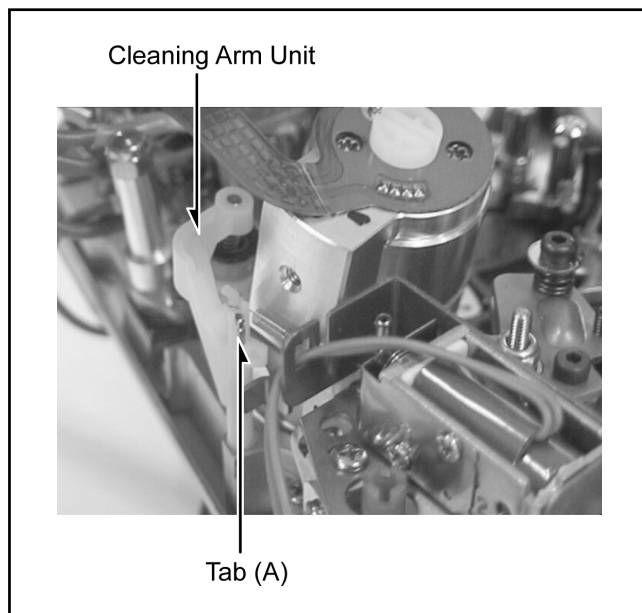

Figure 2-2-1
1. Unlock the Tab (A) and Spring as shown in Figure 2-2-1, and remove the Cleaning Arm Unit.